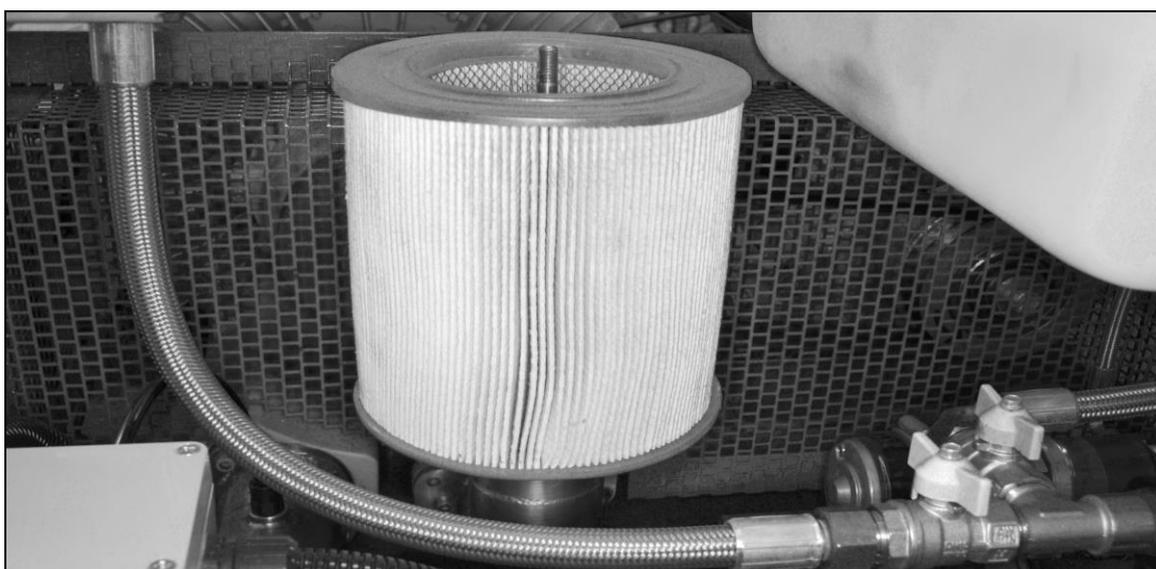

Fig. 9 – Air Filter (Cover Removed)
2. Lift the cover upwards and away from the internal filter– see Fig. 9.